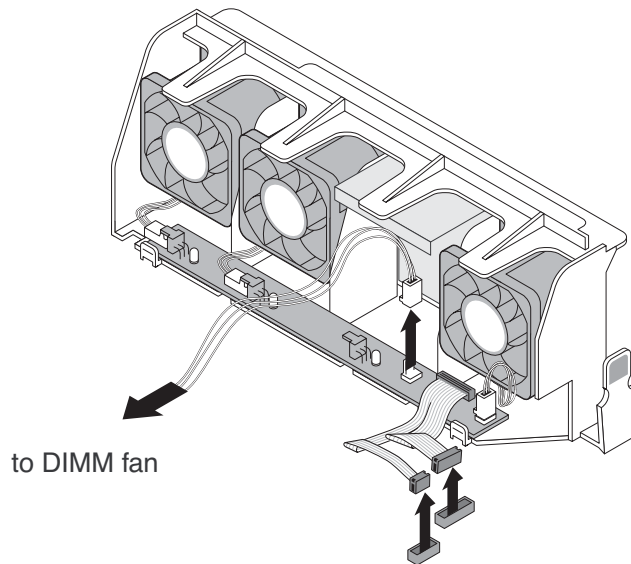

FIGURE 5-9 Connecting the DIMM Fan Power Cable
3. Connect the DIMM fan cable to the 3-pin header on the server main fan pack (see Figure 5-9).